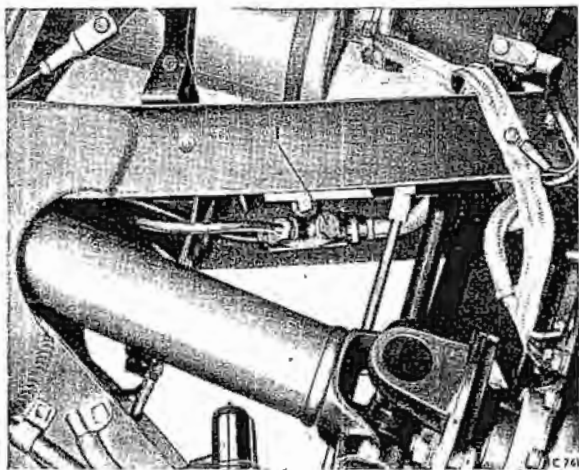

Fig. 25 Priming ride control oil pump
- 2 Remove the blank from the four-way connection on the ride control oil delivery pipe (see Fig. 25).